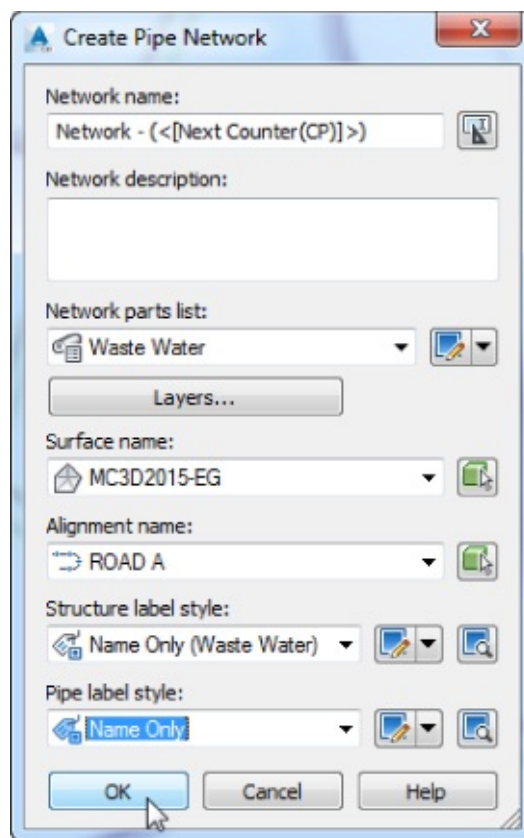
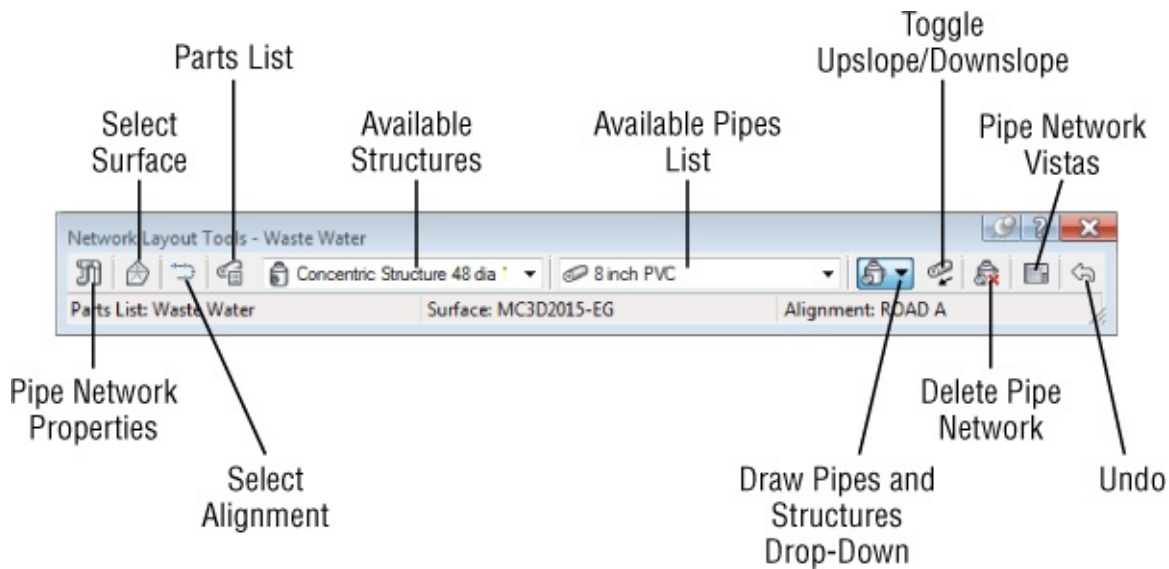

Figure 13.24 The Create Pipe Network dialog
Figure 13.25 The Network Layout Tools toolbar
This section will give you an overview of establishing pipe network parameters. Use this section as a reference for the exercises in this chapter. When you're ready to create a pipe network by layout, select the Home tab > Create Design panel and choose Pipe Network > Pipe Network Creation Tools. The Create Pipe Network dialog appears (see Figure 13.24), and you can establish your settings.
Certification Objective After establishing your pipe network parameters in the Create Pipe Network dialog (shown earlier in Figure 13.24), click OK; the Network Layout Tools toolbar will appear (see Figure 13.25).
5. In the Create Pipe Network dialog (shown previously in Figure 13.24), give your network the following information: